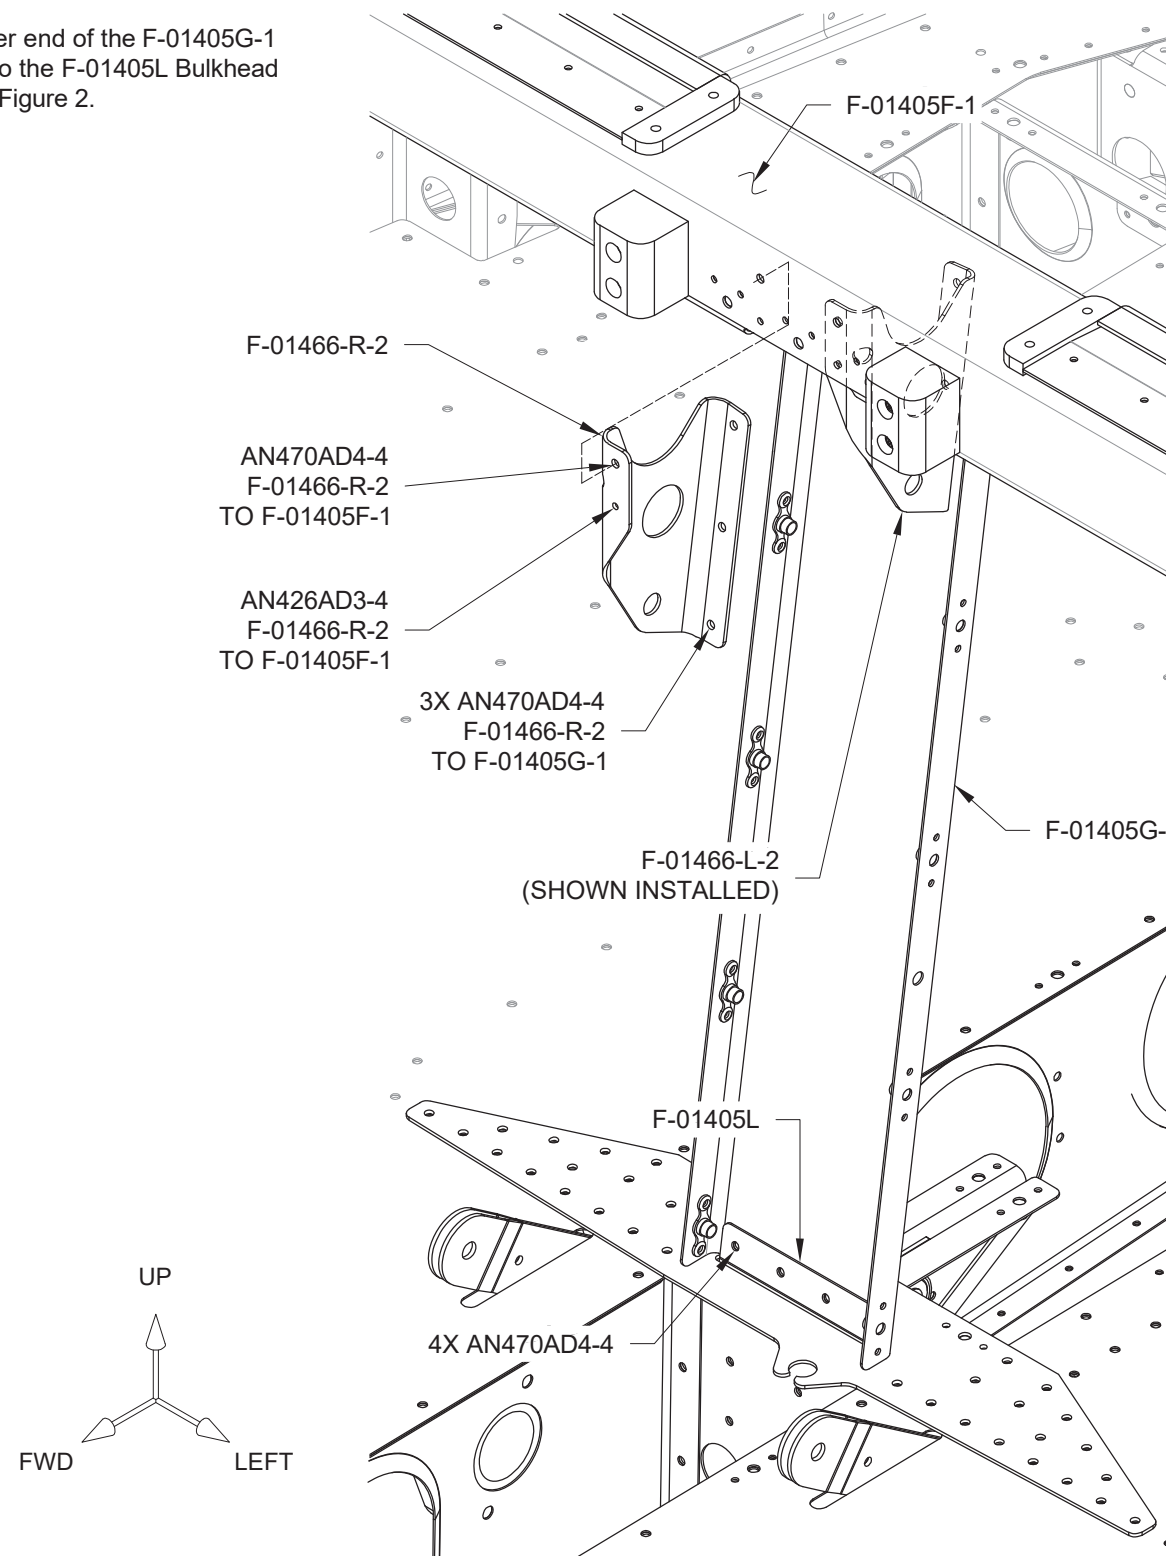

FIGURE 2: INSTALL FLAP MOTOR BRACKETS
Step 3: Rivet the lower end of the F-01405G-1 Flap Motor Channel to the F-01405L Bulkhead Doubler as shown in Figure 2.